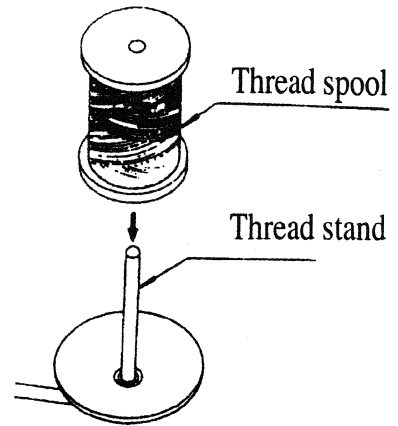

FIG.10
B. Using common thread spool ,please take off the plastic cap and put the thread spool on the thread stand. (Fig.10)